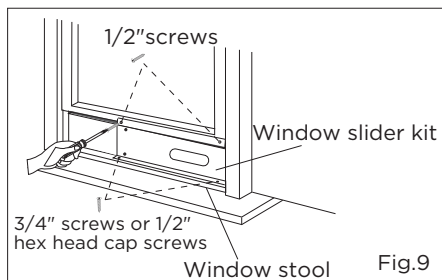

Fig.9
3. Close the window sash securely against the window slider kit. (Fig.9)
4. Drive two 1/2" screws to secure the window slider kit to the window sash. (Fig.9)
5. Secure the window slider kit to the window stool (Fig.9):